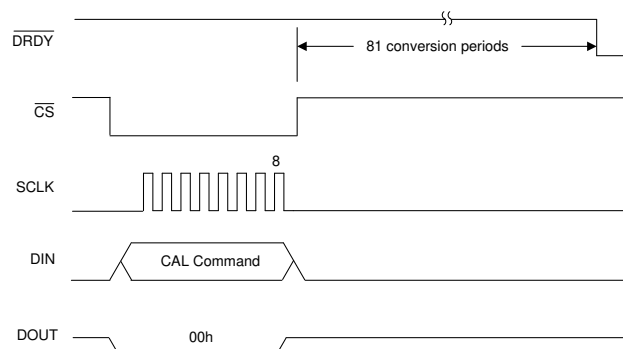

Figure 7-21. Calibration Command
- a. OFSCAL command. After the command is sent, $\overline{\text{DRDY}}$ is driven low 81 conversion periods later to indicate calibration is complete. The OFFSET register is updated with the new calibration value. As shown in Figure 7-21, the first data output uses the new OFFSET value.
- a. GANCAL command. Apply a positive dc full-scale calibration voltage. After the command is sent, $\overline{\text{DRDY}}$ is driven low 81 conversion periods later to indicate calibration is complete. The ADC calculates GAIN such that the full-scale code is equal to the applied calibration signal. As shown in Figure 7-21, the first data output uses the new GAIN value.